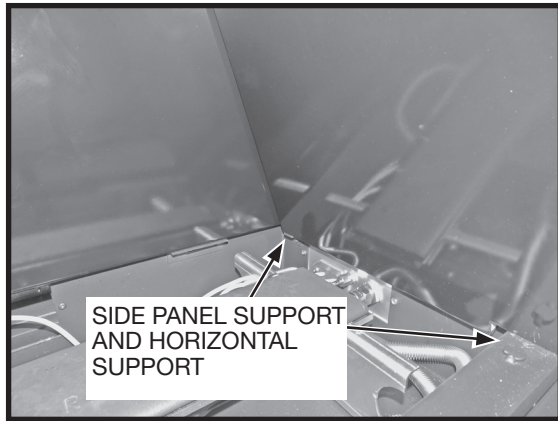

Figure 56: Right side panel.
4. While supporting the back panel insert one of the side panels into the firebox. Place the rear end of the side panels on to the side panel supports and rest the front end of the panels on the horizontal support (Figure 56).